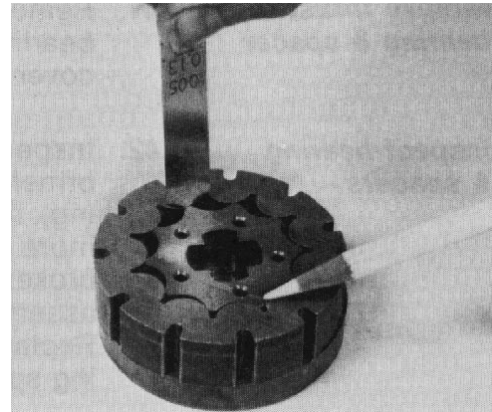

Figure 51
36. Check the rotor lobe “tip” to stator lobe “tip” clearance, with a feeler gauge (Fig. 51). The rotor lobe, directly across from the rotor lobe tip being measured (see pointer in Fig. 51) must be centered between stator lobes during the measurement. A rotor and stator that exceeds the maximum allowable “tip” clearance, must be replaced.